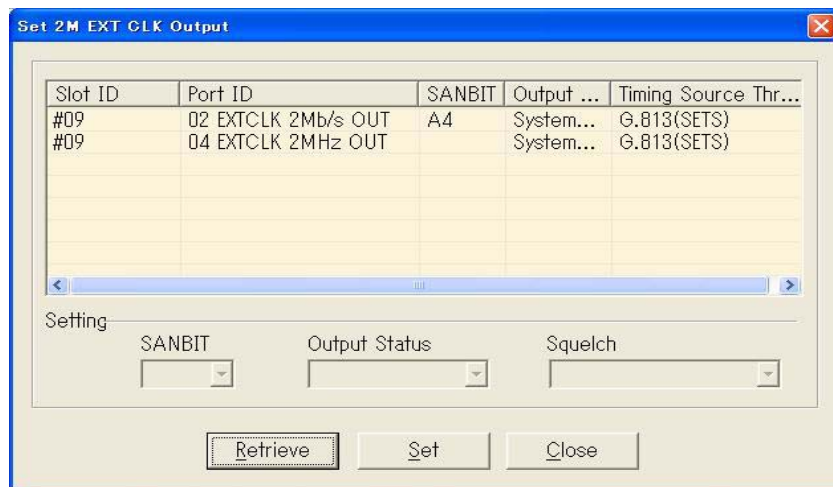

Fig. 4-4-19 2M EXT CLK Output Dialog Box
- 2 From the main menu on the NE ADM Management Tool, select **Set Output-Clock Port** from the **Configuration** menu. The **2M EXT CLK Output** dialog box shown in *Fig. 4-4-19* appears: